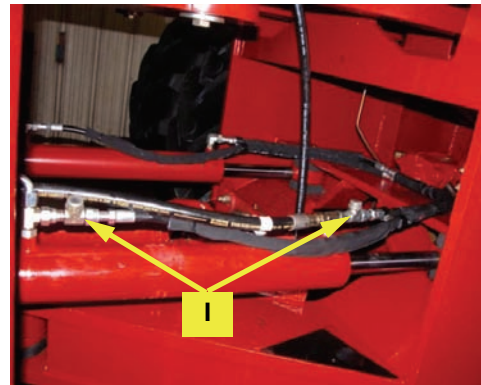

Figure 6b: Installed steering run-tees
- b. Install the run-tees **I** to the steering lines at each end of the steering cylinder (Figure 6b).